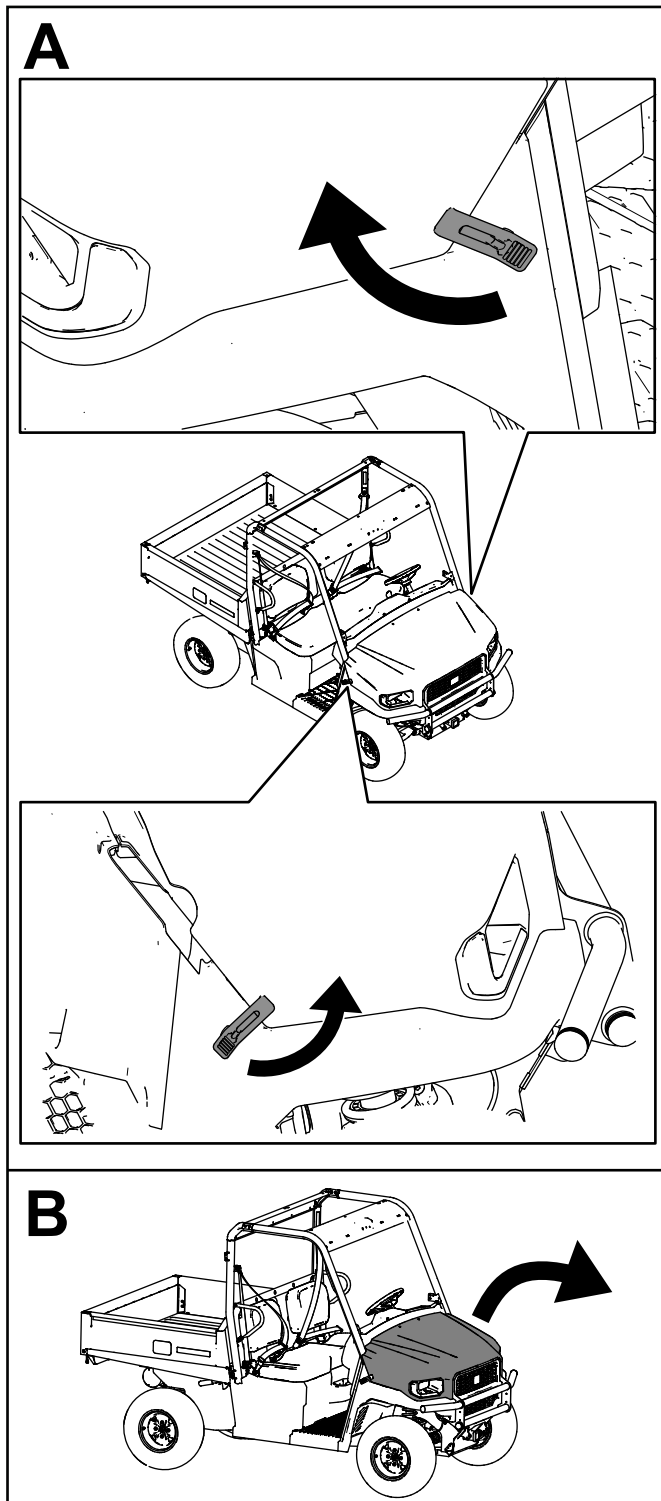

Figure 60
2. Secure the hood by aligning the rubber latches onto the latch anchors on each side of the hood (Figure 60).